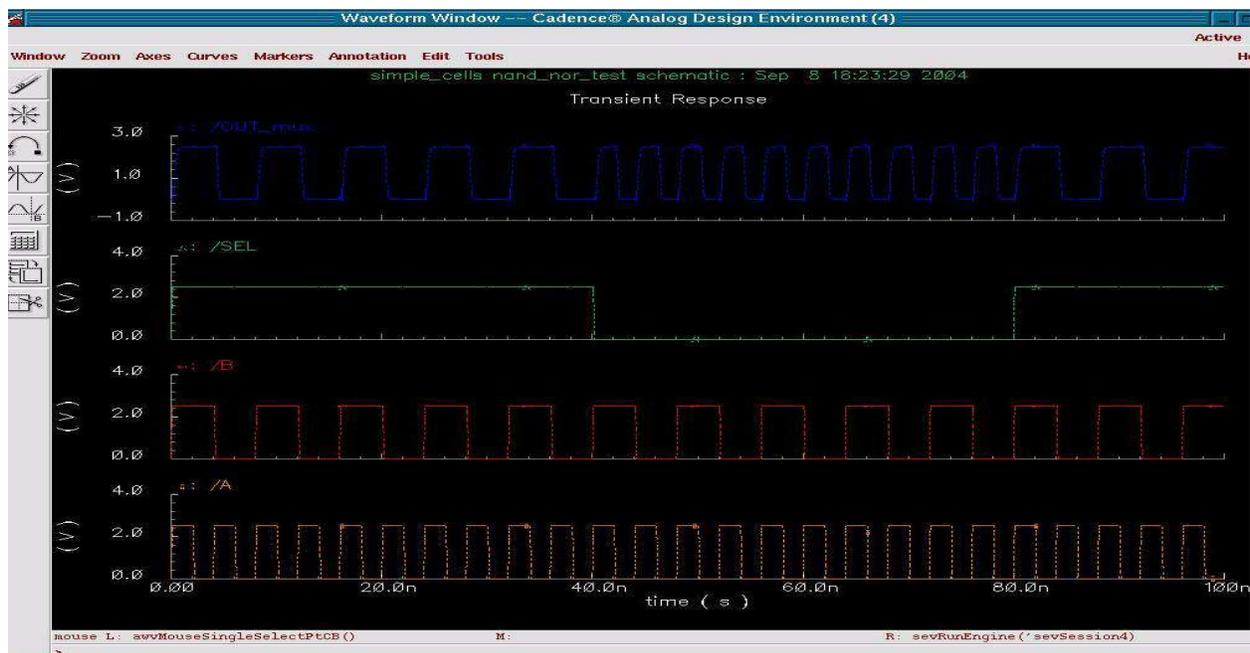

Figure 8: SPICE simulation results of `mux_nand_nor_test`.
7. Go to Tools->Analog Environment to proceed with SPICE simulation. Configure everything the same way you did before but this time, set the analysis stop time to 100n. Also choose the outputs to be plotted as A, B, SEL and OUT\_mux. After everything is configured, start the SPICE simulation. If everything goes properly, the output waveforms should look similar to that of Figure 8. Observe that When SEL is high, the output waveform is obviously B, and when SEL is low, the output waveform is obviously A.